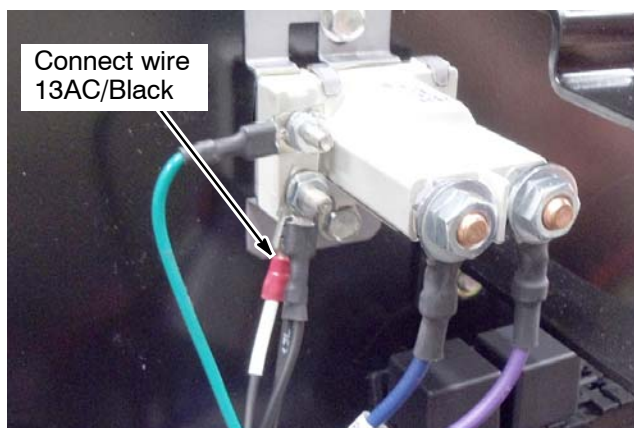

Fig. 15
14. Connect wire 13AC/Black from the new wire harness to the contactor terminal (Figure 15).